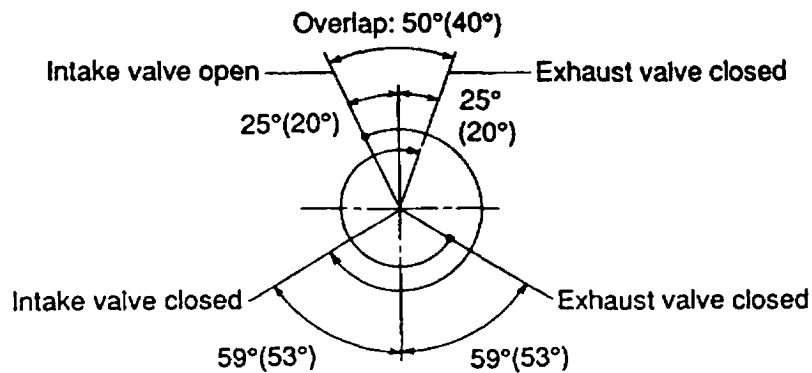

Figure 6-61 Valve timing (valve clearance in cold state: at 0.15 mm)
- 2) Measuring the camshaft and bearing (Crankcase cover side) Measure the I.D. of the ball bearing and O.D. of the camshaft. Replace the ball bearing if it exceeds the wear limit or is badly damaged (see Figure 6-61).